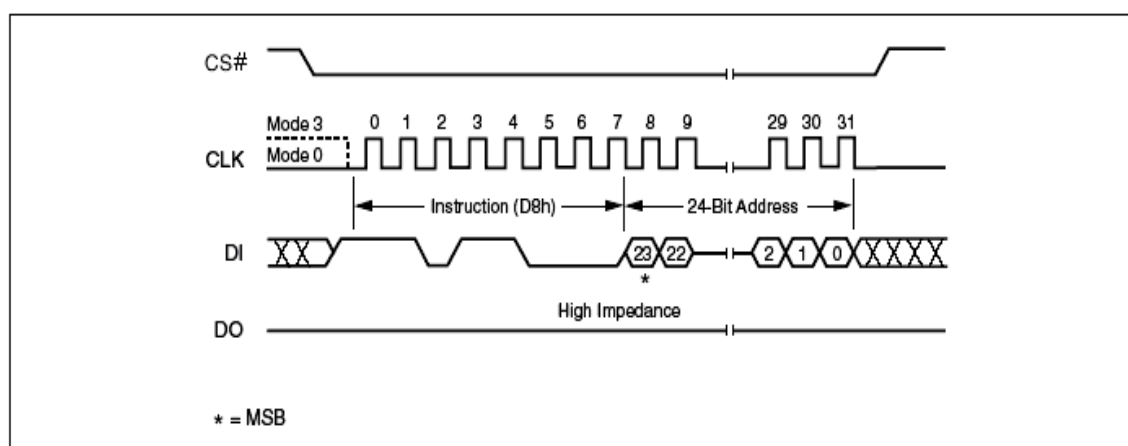

Figure 29. 64KB Block Erase Instruction Sequence Diagram
The instruction sequence is shown in Figure 29. Chip Select (CS#) must be driven High after the eighth bit of the last address byte has been latched in, otherwise the Block Erase (BE) instruction is not executed. As soon as Chip Select (CS#) is driven High, the self-timed Block Erase cycle (whose duration is t_{BE}) is initiated. While the Block Erase cycle is in progress, the Status Register may be read to check the value of the Write In Progress (WIP) bit. The Write In Progress (WIP) bit is 1 during the self-timed Block Erase cycle, and is 0 when it is completed. At some unspecified time before the cycle is completed, the Write Enable Latch (WEL) bit is reset.